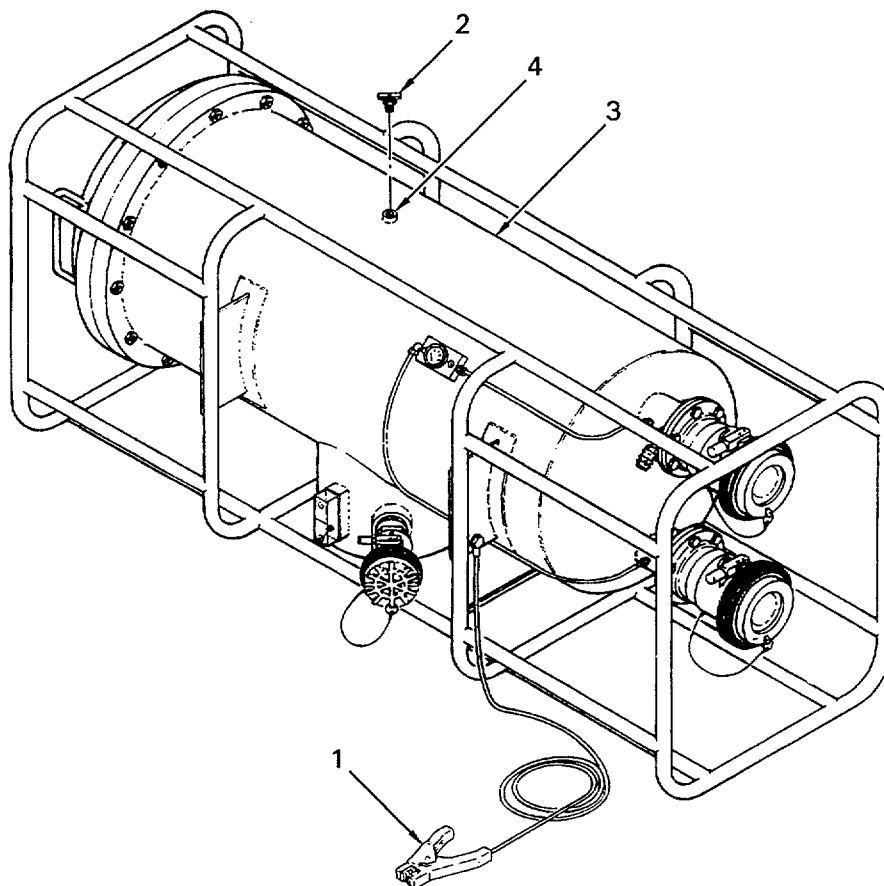

Figure 4-14. Manual Vent Valve Replacement
a. Removal. (Figure 4-14)
- (1) Connect the liquid fuel filter-separator grounding cable (1) to a ground rod.
- (2) Depress and latch open the manual vent valve (2) to relieve any pressure from filter vessel (3).
- (3) Remove manual vent valve (2) from filter vessel (3).
b. Installation. (Figure 4-14.)
- (1) Apply a light, even coat of thread sealant to the threads on the manual vent valve (2). Clean off any thread sealant from below the threaded area. Thread sealant or any foreign material on the bottom end of the manual vent valve (2) may clog the manual vent valve (2) and prevent it from operating properly.
- (2) Install the manual vent valve (2) in the filter vessel boss (4).
- (3) Close the manual vent valve (2).
- (4) Place grounding cable (1) in stowage location.